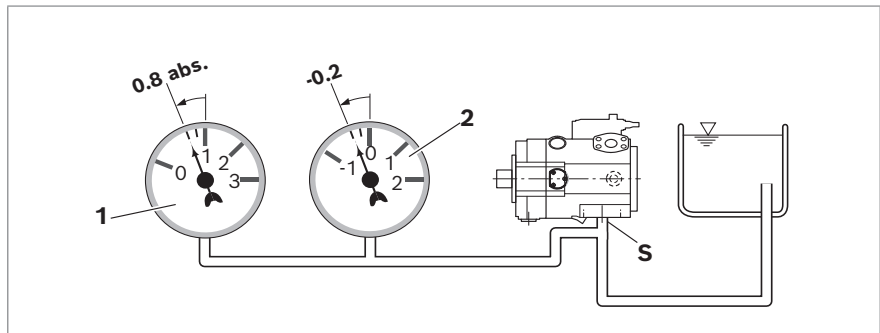

Fig. 7: Suction pressure
- ▶ Make sure that a minimum suction pressure of 0.8 bar absolute (without charge pump) or 0.7 bar absolute (with charge pump) absolute is present at port "S" during operation and at cold start, in all installation positions and installation locations for the axial piston pump, see Fig. 7. See data sheet for other pressure values.